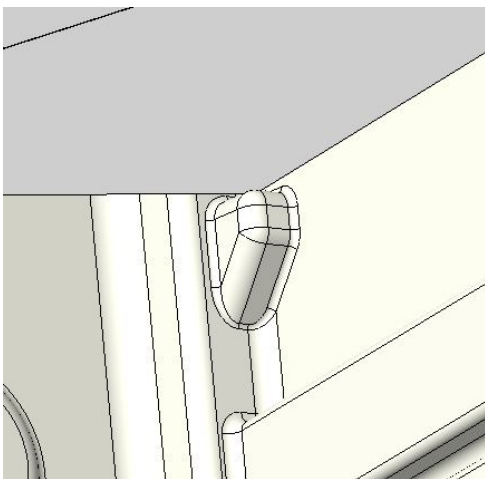

Fig. 7
2. Dew collector rested on inner box liner slot as shown in fig 7, remove it
3. Dew collector rested on inner box liner slot as shown in fig 7, remove it.